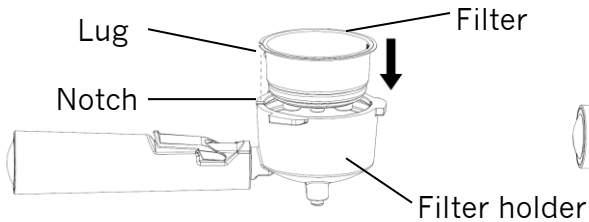

Fig. 2
1. Align the small lug on the edge of the filter with the notch on the rim of the filter holder (fig.2) and then insert the filter into the holder.